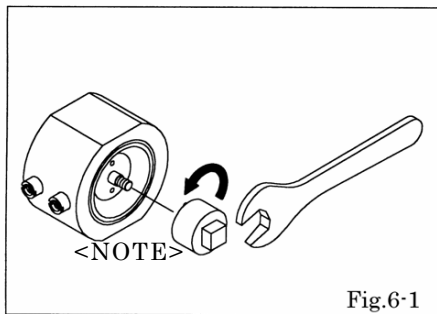

Fig.6-1
- Remove the guides of both sides using the socket for a guide (dedicated tool: Part No. 803989) and the spanner. [Fig.6-1]